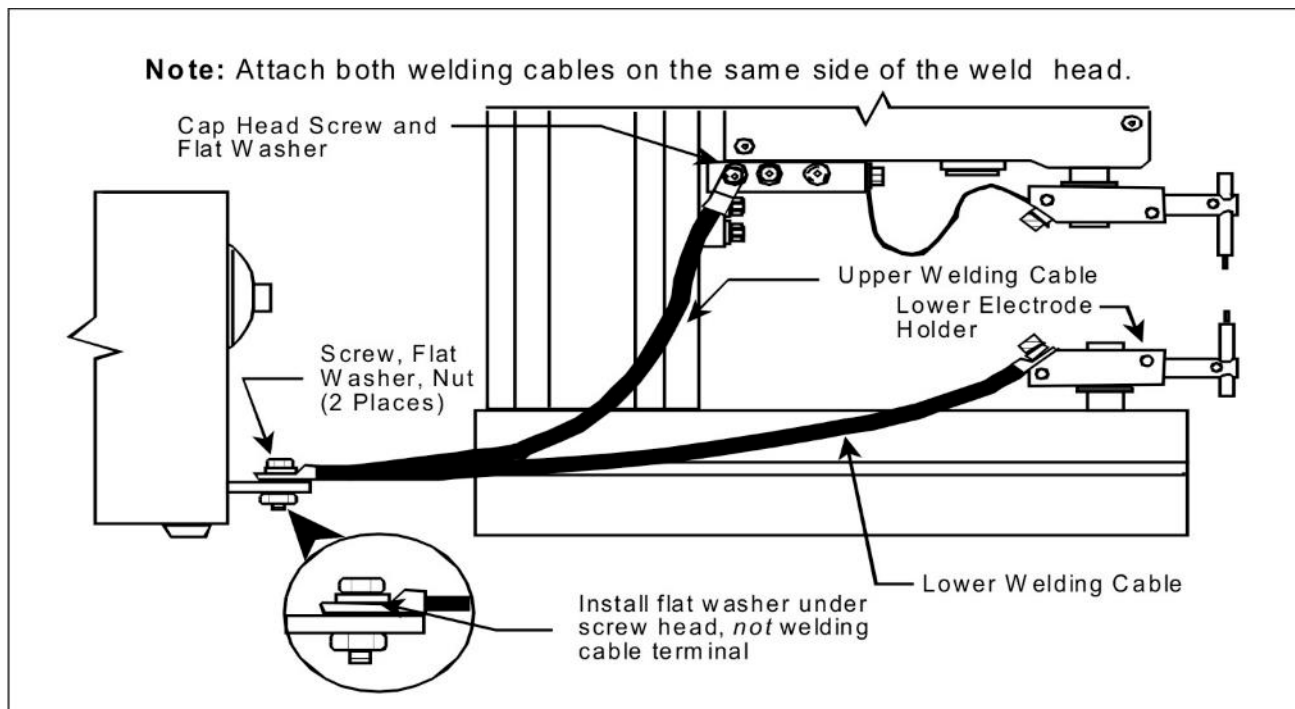

Figure 2-2. Terminal Connection Examples
- Bolt connections directly together. Do not place washers between the terminals of the 250DP and the terminals of the cables. Tighten connections securely, they must be free from oxidation, dirt and/or grease (see figure 2-2).